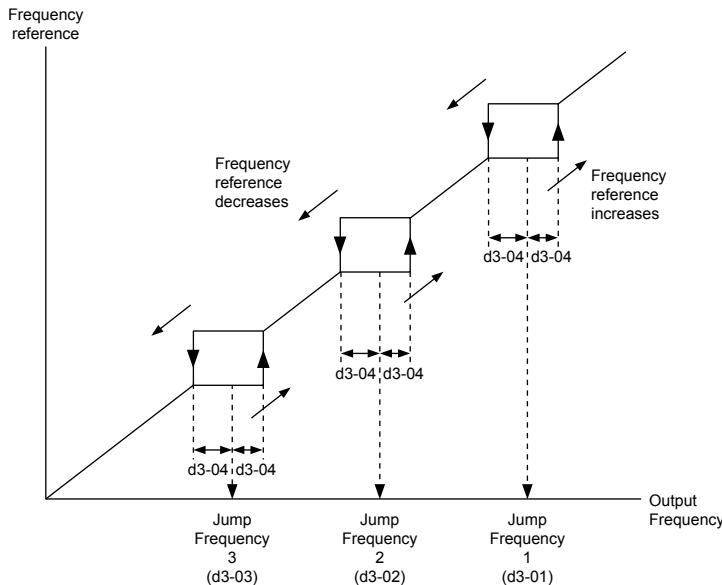

Figure 5.46 Jump Frequency Operation
**Figure 5.46** shows the relationship between the Jump Frequency and the frequency reference.